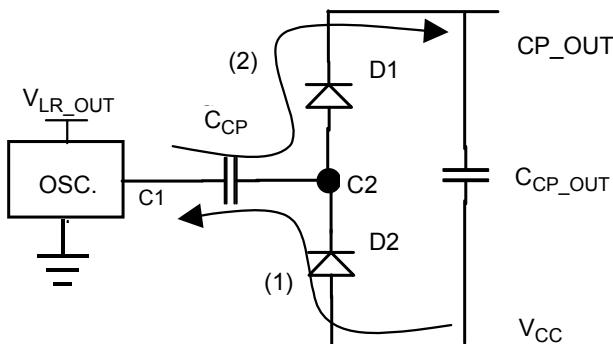

Figure 8. Charge Pump Basic Circuit
The charge pump generates the high-side driver supply voltage (CP_OUT), buffered at C_{CP_OUT} . Figure 8 shows the charge pump basic circuit without load.
When the oscillator is in low state (1) in [Figure 8], C_{CP} is charged through D2 until its voltage reaches $V_{CC} - V_{D2}$. When the oscillator is in high state (2), C_{CP} is discharged through D1 in C_{CP_OUT} , and final voltage of the charge pump, V_{CP_OUT} , is $V_{cc} + V_{LR_OUT} - 2V_D$. The frequency of the 33883 oscillator is about 330 kHz.